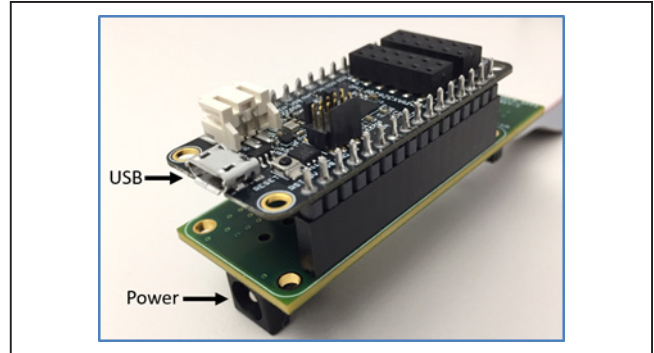

Figure 2. USB and Power Connectors
- 2) Connect the external 3.3V supply to the shield board (see Figure 2).
- 3) Connect a USB cable from the MAX32620FTHR micro-USB port to the PC's USB port (see Figure 2).